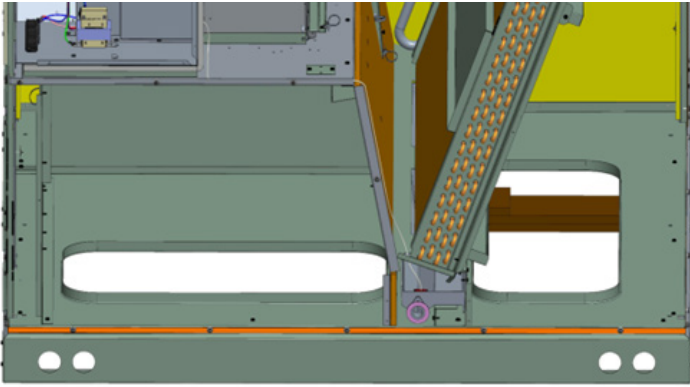

FIGURE 31D
- A. DVH models have two bushings for routing (Figure 31D). The upper bushing is near the end of the Coil Support, and the lower is in the end of the Drain Trough. Once the connector has been passed through the upper bushing, manipulate the wire to position it at the lower bushing, then reach up through the drain pan access area and pull the connector through its lower bushing.